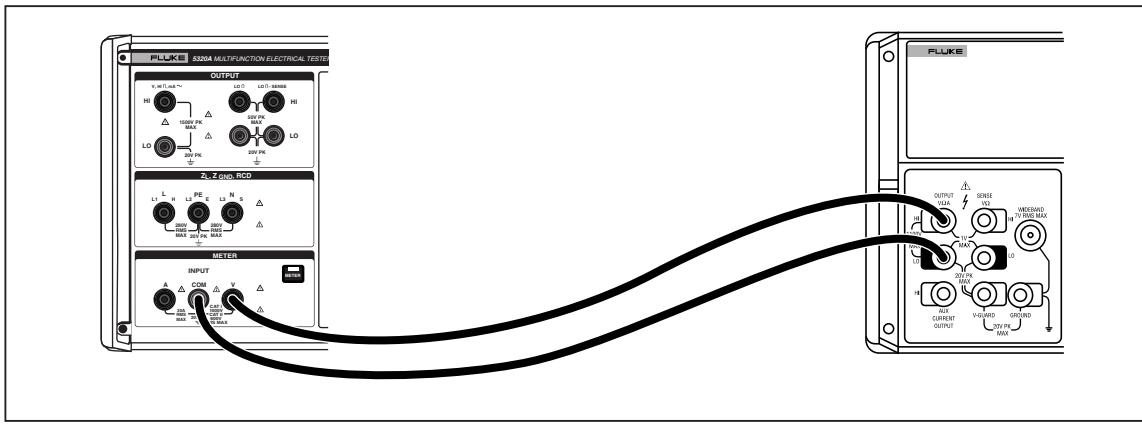

Figure 3-14. DC Multimeter Voltage Calibration Connections
1. Connect the multifunction calibrator to the Calibrator's output terminals as shown in Figure 3-14.